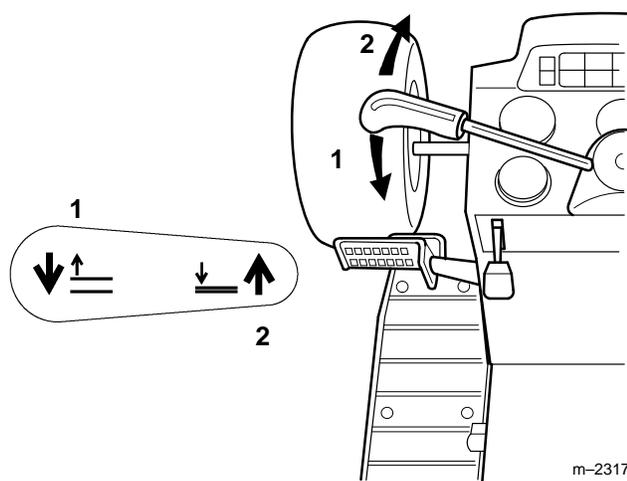

Figure 12
The attachment power lift (Fig. 12) is used to raise and lower attachments.
2. Pull the lift lever in the "UP" direction to raise the attachment lift (Fig. 12). This will lift and hold the attachment in the up, or raised position.
2. Push the lift lever in the "DOWN" direction to lower the attachment lift (Fig. 12). This will lower the attachment lift.